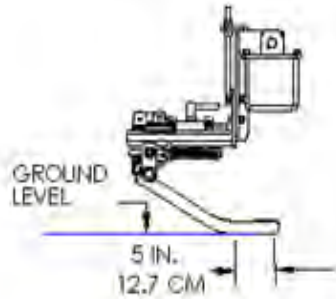
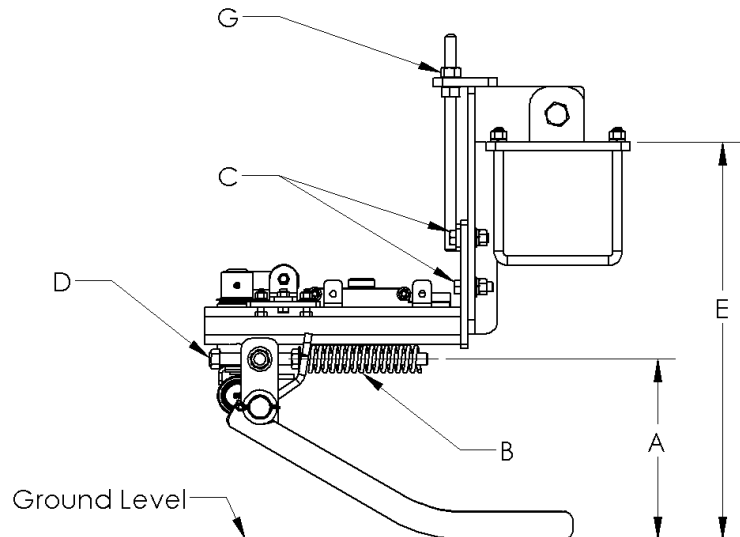

Figure 7-1: Row Finder Wand Placement
Figure 7-2: Row Finder Adjustment
When harvesting, the row finder wands should be adjusted like Figure 7-1 such that there is 5 inches (12.7 cm) of contact between the ground and row finder wands. Adjustment spring (B), shown in Figure 7-2, can be adjusted to apply more down pressure to ensure constant contact with the beet row.